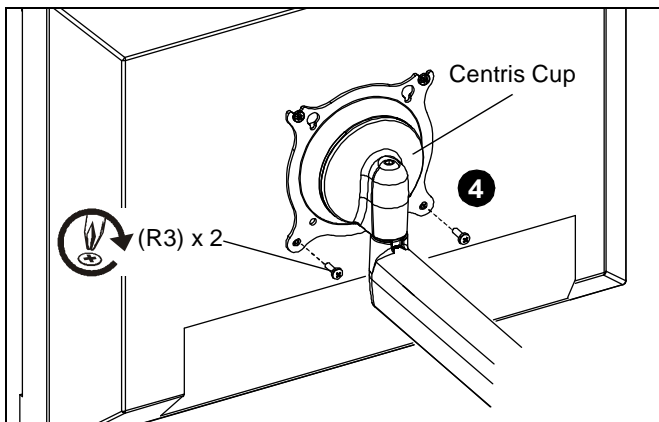

Figure 6
4. Using Phillips screwdriver, install two screws (R3) through the *lower* mounting holes in Centris cup into the display. (See Figure 6)
5. Tighten all screws (R3). Do not overtighten! (See Figure 6)